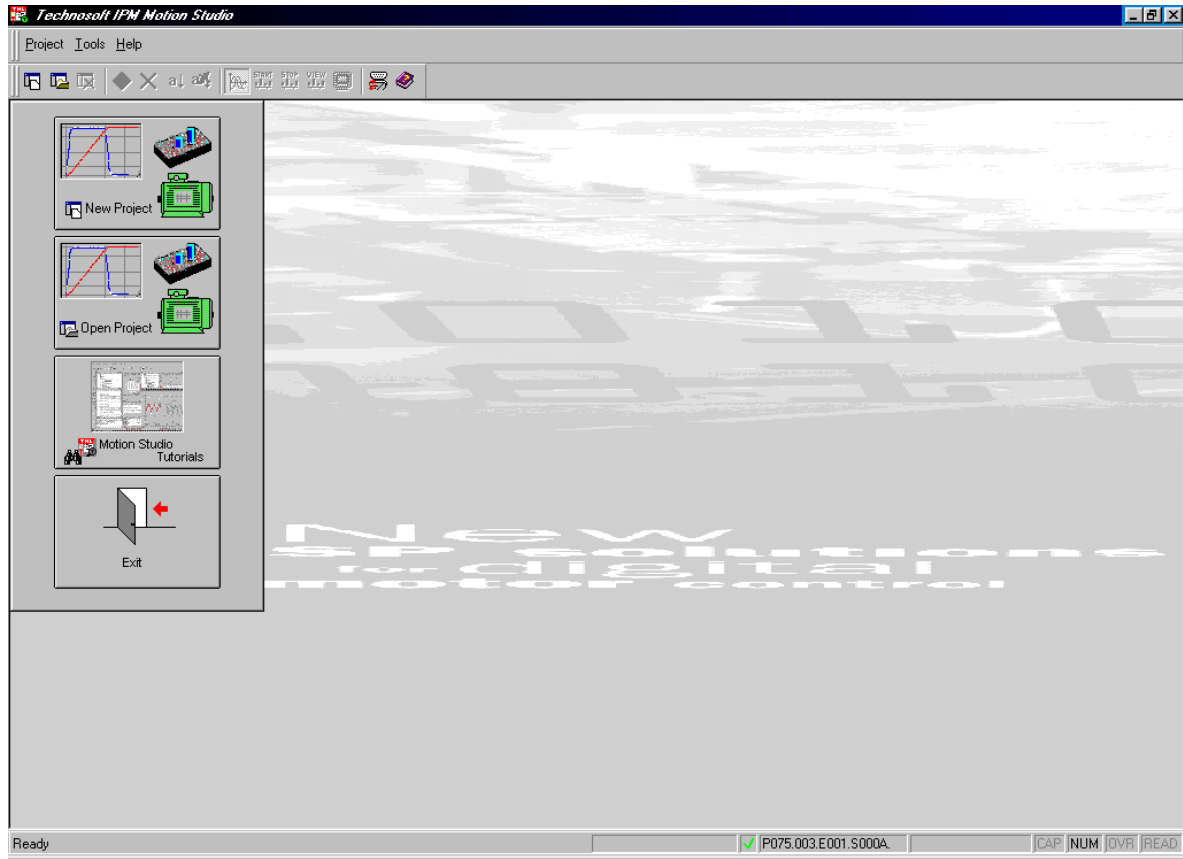

Figure 7. IPM Motion Studio opening screen
1. **Start the execution of IPM Motion Studio;** use the Windows “Start | Programs | IPM Motion Studio | IPM Motion Studio” menu command. A dialog as in Figure 7 should be displayed if the communication with the board is established and operates properly.